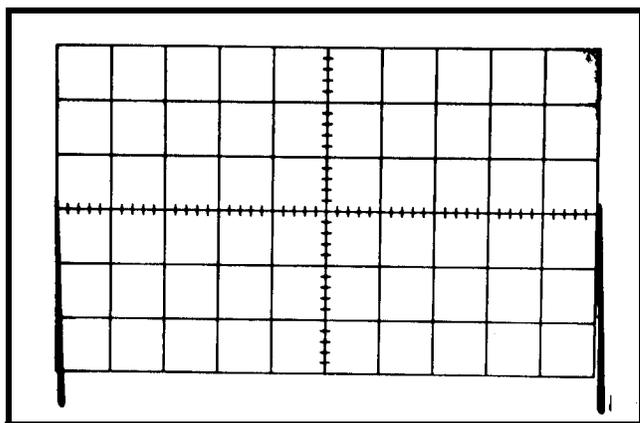

Fig. 6-47. Typical CRT display when checking delayed-sweep accuracy.
- b. Set the HORIZ DISPLAY switch to DELAYED SWEEP (B).
c. CHECK-Using the A TIME/DIV switch, B TIME/DIV switch and time-mark generator settings given in Table 6-7, check delayed sweep accuracy within the given tolerance. First set the DELAY-TIME MULTIPLIER dial to 1.00 and rotate the dial until the sweep starts at the top of the second marker (see Fig. 6-47). Note the dial reading and then set the dial to 9.00 and rotate until the sweep starts at the top of the tenth marker. DELAY-TIME MULTIPLIER dial setting must be 8.00 divisions higher; + or - the allowable error given in Table 6-7.